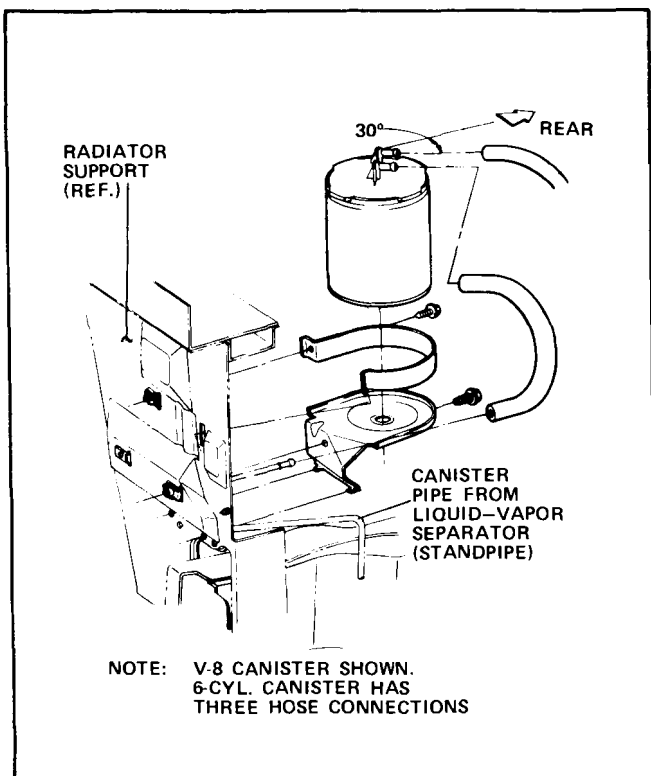

Fig. 8-36 Installation of Canister (Except X Series)
1. Disconnect hoses from canister (Figs. 8-36 and 8-37).
1. Loosen screw(s) for strap holding canister (Figs. 8-36 and 8-37).